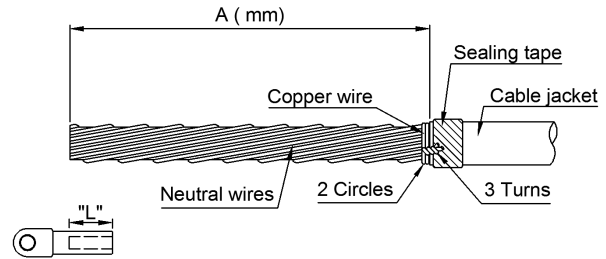

Fig.4
- Measure down from top of the cable as shown in Fig.4 . Remove cable jacket ( if jacketed cable is used) to expose neutral wires.